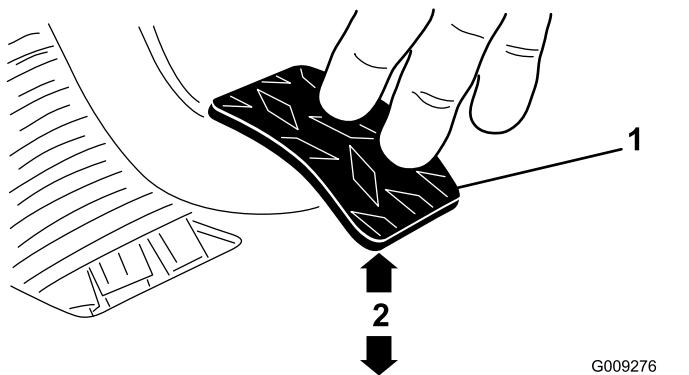

Figure 57
3. Adjust the jam nuts or ball joint until the rear edge of the clutch pedal is 9.2 to 9.8 cm (3-5/8 to 3-7/8 inches) from the top of the floor plate diamond pattern, when you apply 1.8 kg (4 lb) of force to the pedal (Figure 57).